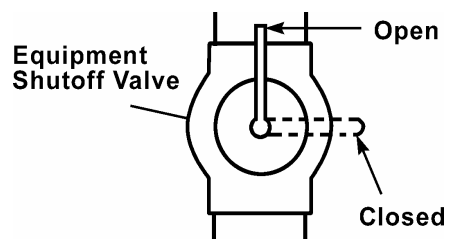

Figure 15 - Equipment Shutoff Valve
1. Open equipment shutoff valve (see Figure 15).
4. Check all joints from equipment shutoff valve to control valve (Figure 15). Apply mixture of liquid soap and water to gas joints. Bubbles forming show a leak.
1. Close equipment shutoff valve (see Figure 15).